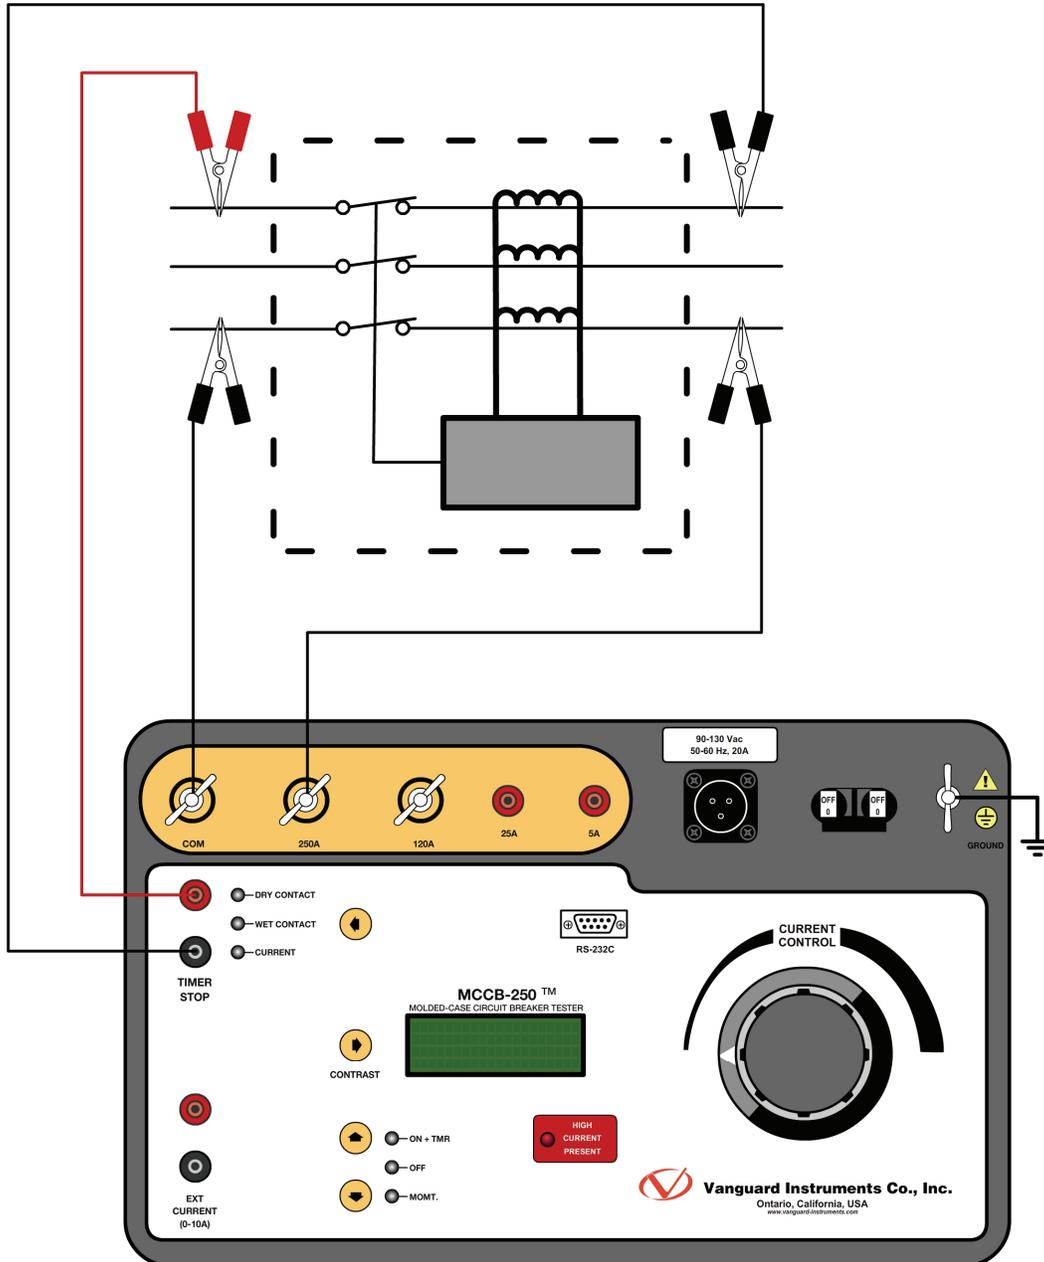

Figure 3. Typical MCCB-250 Application
Figure 3 illustrates a typical connection of the MCCB-250 to a protection relay to test its “Open Time Delay”. The MCCB-250 injects a test current through a bus. The test current is sensed by the CT of the protection relay. One of the relay dry contacts is used to stop the MCCB-250 timer.
- c. Connect the Current Cables from the MCCB-250 to the bus as shown in Figure 3.
- d. Connect the **[TIMER STOP]** cables as shown in Figure 3.